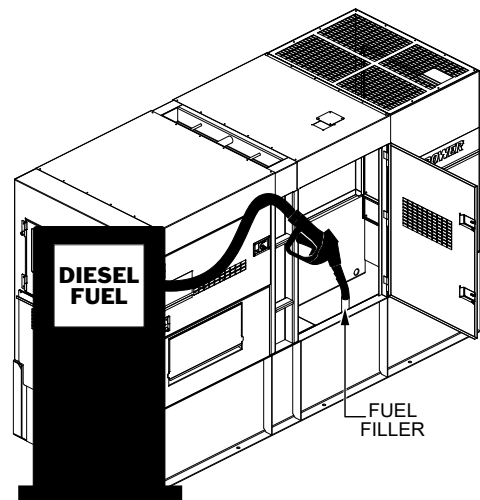

Figure 29. Fueling The Generator
2. Open the enclosure door, remove the fuel cap, and fill the fuel tank as shown in Figure 29.